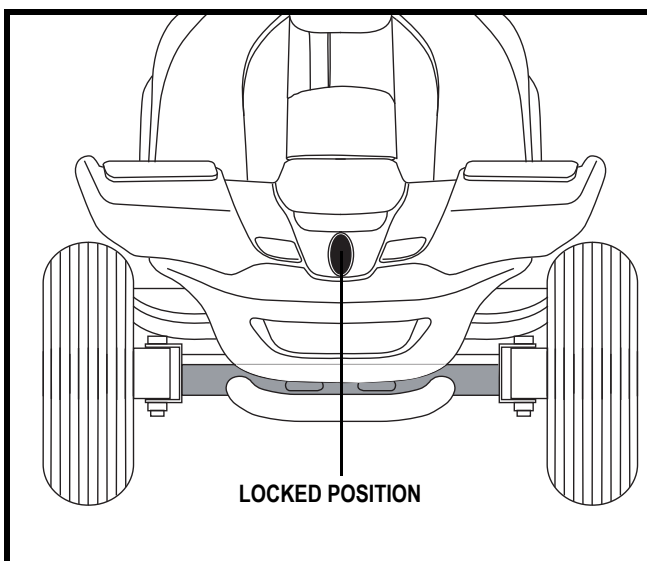

Figure 21. Tiller Lock Knob (Locked)
2. Lock the tiller in the straight ahead position by pushing the tiller lock knob in and turning it clockwise 90°. See figure 21. The front wheel must face forward in order to lock the tiller.